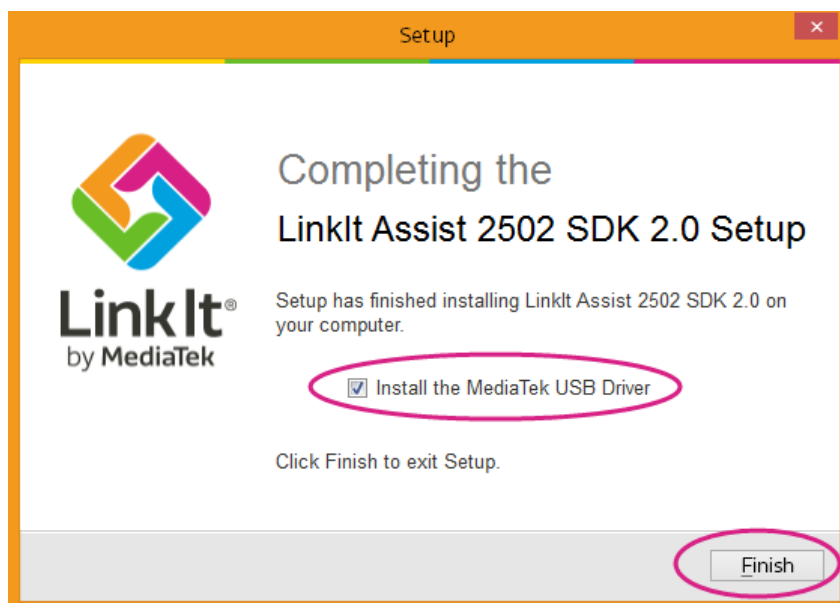

Figure 11 Final page of the SDK installer
- 9) Once the plug-in is installed and, if the option was taken, the SDK is moved the **Completing the LinkIt Assist 2502 SDK 2.0 Setup** page, Figure 11, displays. Ensure that **Install the MediaTek USB Driver** is checked, then click **Finish**.